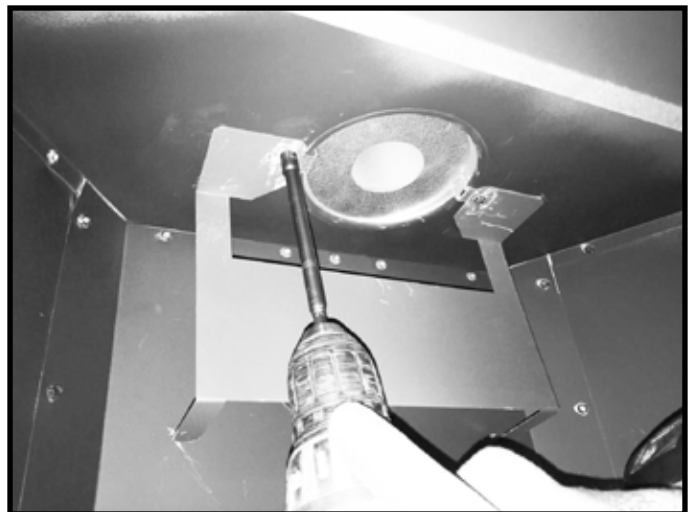

Figure 4.19 31-60 Ft. Vertical Run
- The top vent flue baffle will be turned to install inside for 31-60 ft. vertical runs of vent. See Figure 4.19.